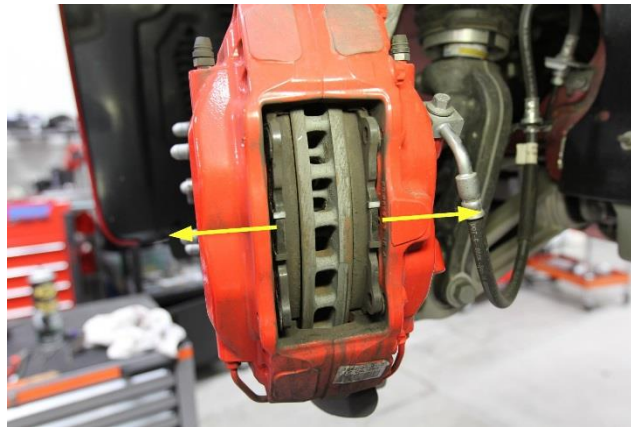

Figure 7 (Front caliper shown, rear caliper similar)
- Use a caliper spreader to expand the brake pads and compress the pistons back into the front LH caliper (Figure 7).